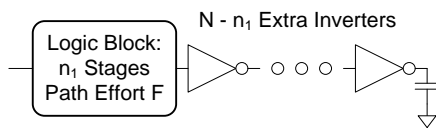

Fig. 8
8. The logic block shown in Fig. 8 has n_1 stages and a path effort of $F = 128$. Consider adding $N - n_1$ inverter to the end. Assume the i -th parasitic of logic block is p_i and the parasitic of inverter $p_{inv} = 1$. (5%)